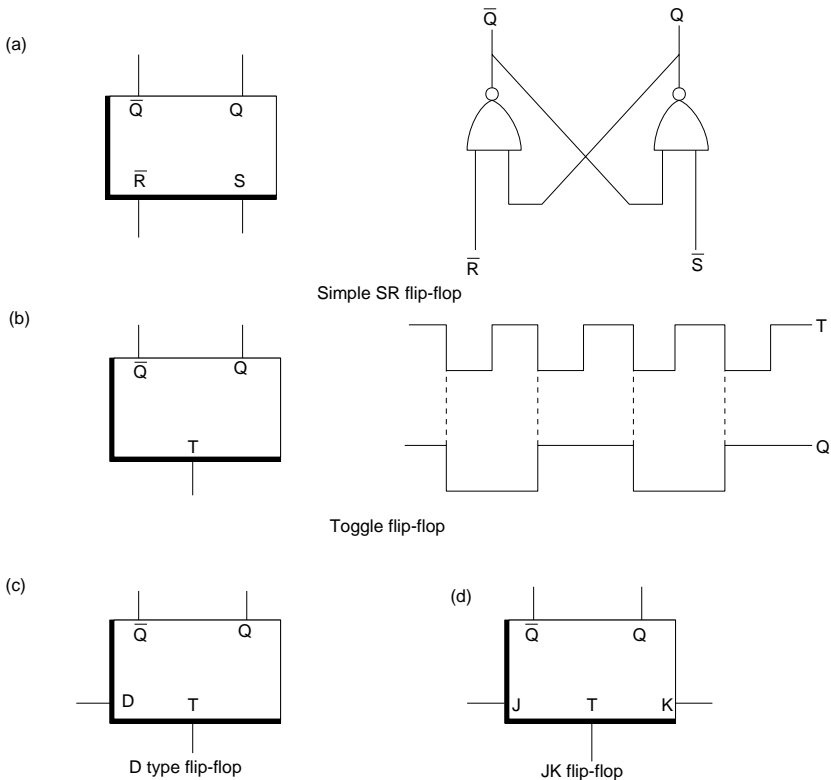

Fig A. 4 Types of flip-flop.
Logic gates deliver an output state, depending on the present input conditions. They are combinatorial devices, acting in real time and capable of analysis by simple Boolean algebra. Flip-flops are in an entirely different class because their present state depends on some event (usually a logic pulse) which occurred in the past. From this, it should be easy to conclude that flip-flops have the ability to memorise. But they can't memorise much. In fact, one flip-flop can only store a single bit so we would need eight of them to store one byte of data. A flip-flop which is storing a 1 is said to be set; if it is storing a 0, it is said to be reset. The four varieties of flip-flop in common use are shown in Fig. A.4.
*The T flip-flop.* This is often called a 'toggle' because every negative-going edge of a pulse on T will change the state at Q it toggles the state backwards and forwards. The waveforms shown on Fig. A-4(b) indicate that a continuous pulse of frequency  $f$  applied to T causes an output frequency of  $f/2$ , illustrating its primary use as a frequency divide-by-two stage. The Q output will be at the same half-frequency as Q but in the opposite phase. Direct set and reset terminals, which override T, may also be present in some types.
*The JK flip-flop.* This is a versatile breed of flip-flop, shown in Fig. A.4(d). The logic state on the J,K terminals decide the eventual state of Q after the next trigger pulse on T. The action is best described with the aid of the following truth table: